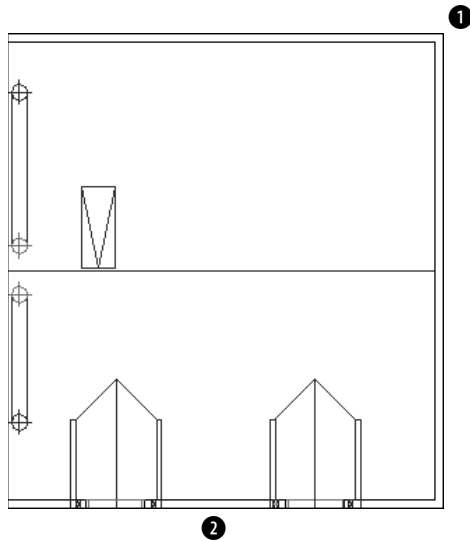

**Figure 10-25:** A plan view of a garage.
2. Save the file as **ab10-08.dwg** in your AutoCAD Bible folder. This drawing is the plan view of a garage, as shown in Figure 10-25. Turn on polar tracking by clicking POLAR on the status bar. Click SNAP on the status bar and then right-click SNAP to make sure that PolarSnap is on (the PolarSnap item will be unavailable if it is already on); otherwise, choose PolarSnap. Turn on OSNAP and set a running object snap for endpoints.
3.  Choose Stretch from the Modify toolbar. At the **Select objects:** prompt, pick **1** in Figure 10-25. At the **Specify opposite corner:** prompt, pick **2**. The prompt notifies you that it found 32 objects. Press Enter to end object selection.